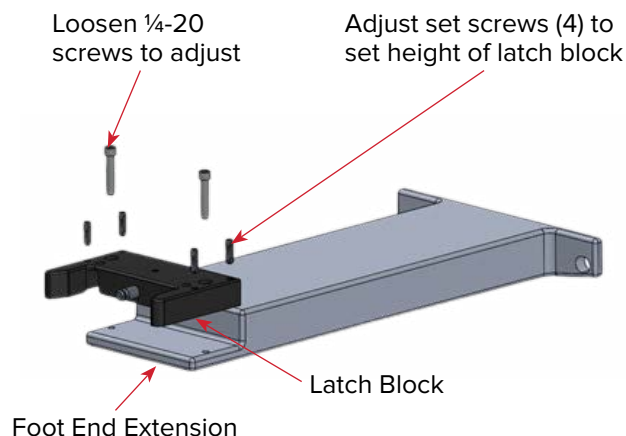

Fig. 43
4. Begin by adjusting the height of the Foot Latch Mounting Block on the existing CT, by loosening the Locking Screws (2) ¼-20 bolts (Fig. 43).